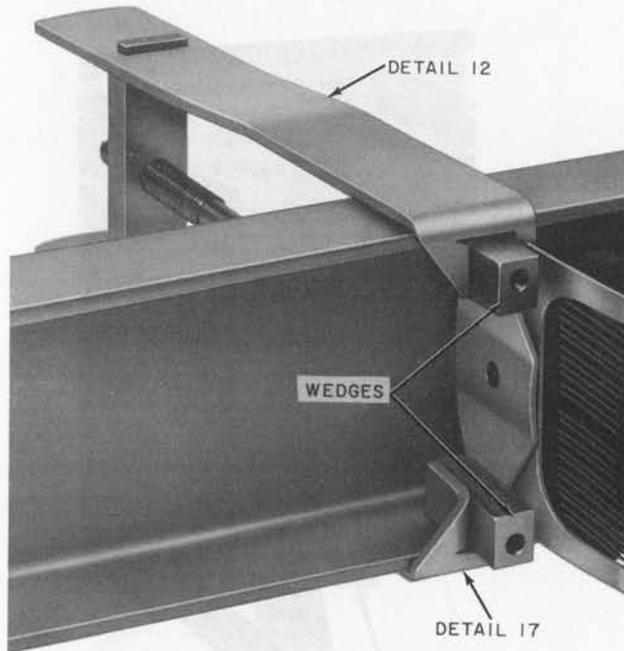

Fig. 19—Wedges in Place With Details 12 and 17
- (b) Use the detail wedge inserter to force details 20 through 33 wedges of sufficient thickness to compress the relay clamping spring between the spring and the wedge supports as shown in Fig. 19.